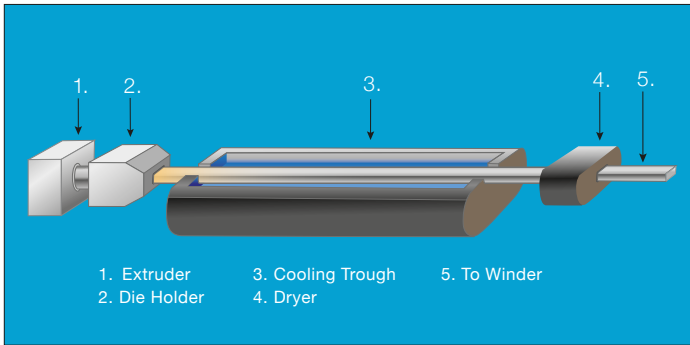

Figure 11: Profile Extrusion Line (Plain View)
**Procedure:** The process for extruding profiles is shown schematically in **Figure 11**. Lubrizol TPUs with high melt strength are best suited for tubing and unsupported profile extrusions. TPU pellets are compacted and fluxed in the extruder barrel. The molten material is extruded in-line under pressure through a die opening designed to yield the required profile. The hot extrudate is immediately passed through a cold water trough where it develops sufficient strength to be pulled away from the die by a suitable take-up. After the take-up, the dimensioned profile is either cut to length or reeled as required.